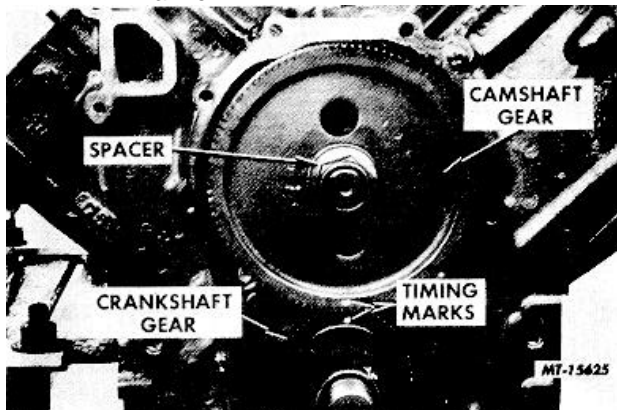

Fig. 159 Piston Cooling Nozzle Installation
- b. Install one cooling nozzle making sure locating pin engages hole in crankcase (Fig. 159). Install new washers and bolt. Tighten bolt finger tight.